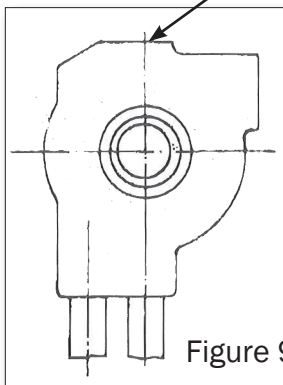

Figure 9
9. Adjust the oil connection on the clutch cover if necessary, see figure 9 or figure 10.